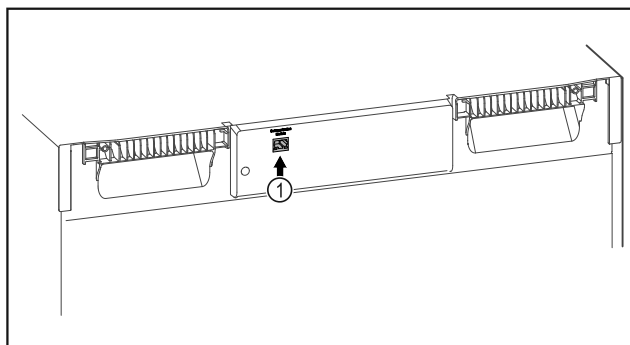

Fig. 141
- SmartModule Fig. 141 (1) is in use.